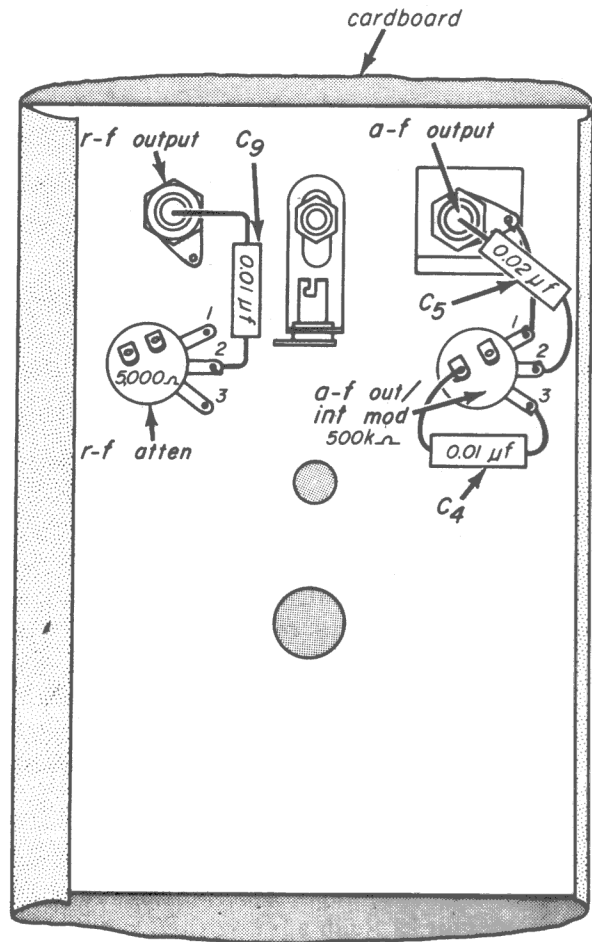

Fig. 20-9
Step 7. Mount the 5,000-ohm potentiometer ( $R_7$ ) with switch attached in the hole marked RF ATTEN, in the same way that you mounted  $R_3$ , except that the terminals of the control are aligned to point toward the pilot-light bracket before the nut is tightened, as in Fig. 20-9. Label this control on the back of the panel.
Step 11. Put a 3/4-inch piece of spaghetti on the other lead of the 0.01- $\mu$ f capacitor ( $C_9$ ) connected to the RF OUTPUT connector. Cut the lead so that it is 1/4 inch longer than the spaghetti. Connect and solder this lead to the center terminal of the RF ATTEN control as shown in Fig. 20-9.